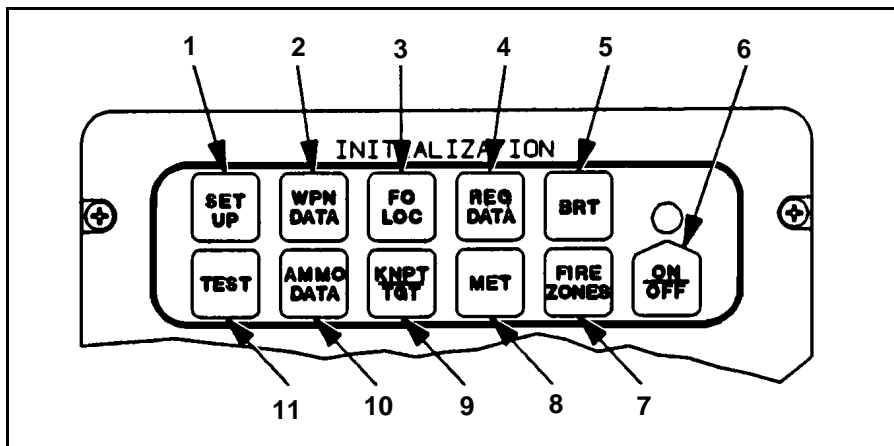

Figure 6-2. Initialization switches.
a. **Initialization Switches** (Figure 6-2). These switches include the following: